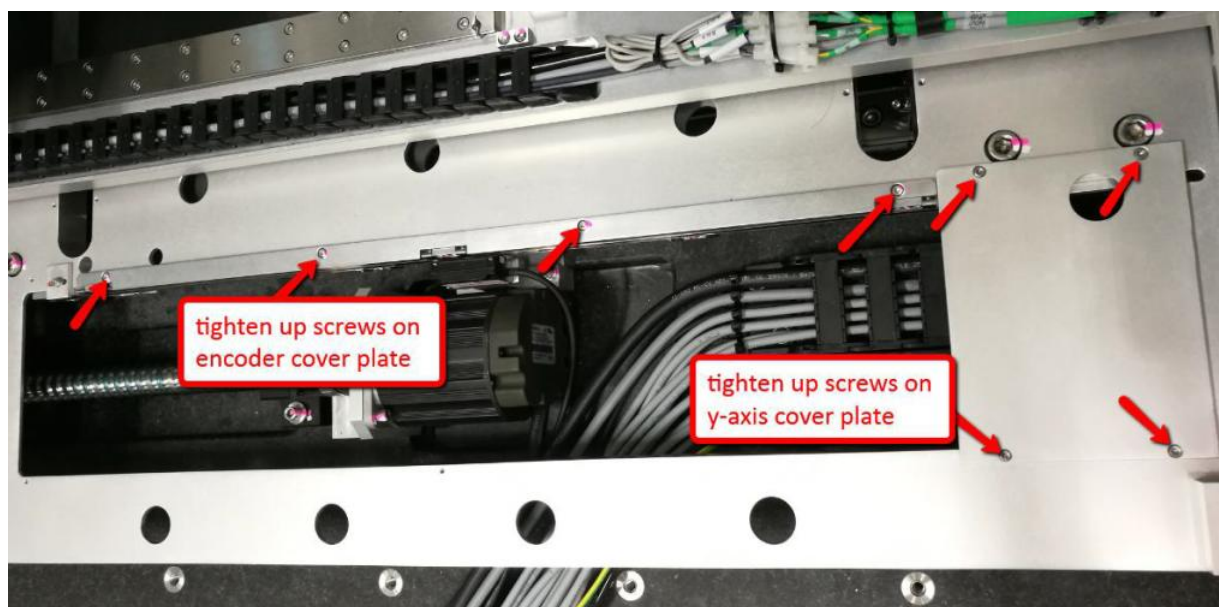

Figure 11 Cover plate assembly
5. Assemble Y-Axis cover plate and encoder cover plate as shown in Figure 11.